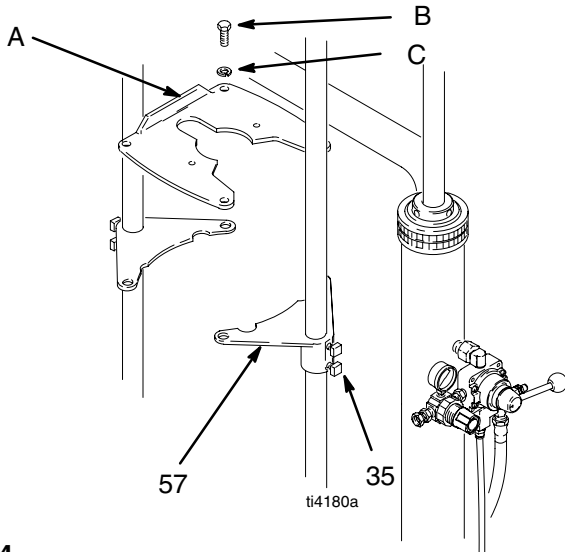

Fig. 4
1. Position the mounting brackets (57) so that the top of the pump will clear the support beam (3).
2. For *President, Monark Check-Mate 200, and Fire-Ball Pumps only*, install the mounting plate (A) onto the mounting brackets (57) using four screws (B) and lockwashers (C). See Fig. 4. Note that the plate is oriented differently for the President and Fire-Ball 425 than for the Monark and Fire-Ball 300.